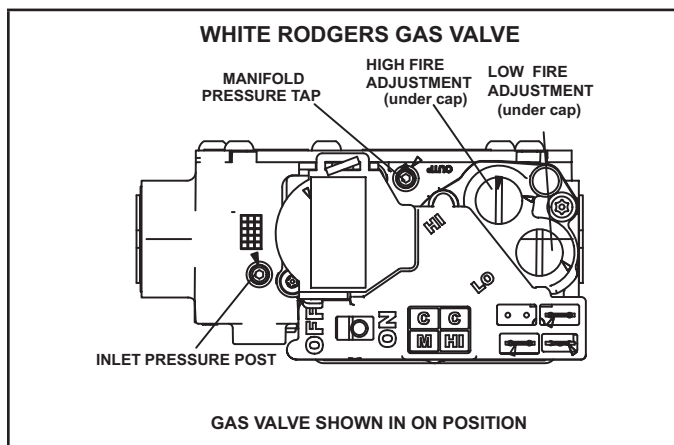

FIGURE 63
Gas Valve Operation (“FIGURE 63”)
- 6 - Move gas valve switch to **OFF**. See “FIGURE 63”.
- 8 - Move gas valve switch to **ON**. See “FIGURE 63”
An inlet post located on the gas valve provides access to the supply pressure. See "FIGURE 63". Back out the 3/32 hex screw one turn, connect a piece of 5/16 tubing and connect to a manometer to measure supply pressure. See "TABLE 16" for supply line pressure.
A manifold pressure post located on the gas valve provides access to the manifold pressure. See "FIGURE 63". Back out the 3/32 hex screw one turn, connect a piece of 5/16 tubing and connect to a manometer to measure manifold pressure.
- 5 - If necessary, make adjustments. "FIGURE 63" shows location of high fire and low fire adjustment screws.